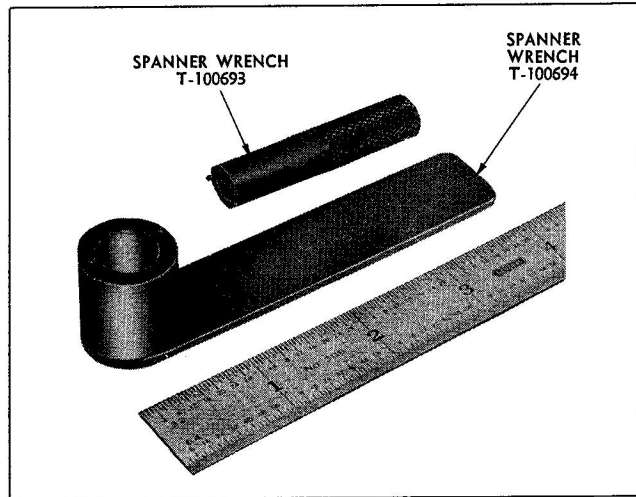
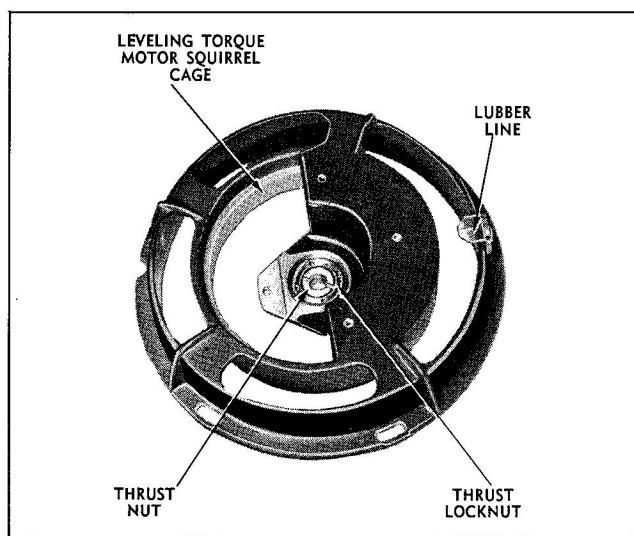

Figure 2-23 Spanner Wrenches T-100693 and T-100694
Figure 2-28 Frame Cap Assembly
3. Using Spanner Wrench T-100694, figure 2-23, loosen and remove the gyro assembly end-play adjustment locknut (thrust locknut) on the balance weight side of the vertical ring.
(1) Using Spanner Wrench T-100694 (figure 2-23) loosen and remove the vertical ring thrust locknut from the bearing housing in the frame cap assembly. (See figure 2-28.) Using Spanner Wrench T-100693 (figure 2-23) remove the thrust nut.